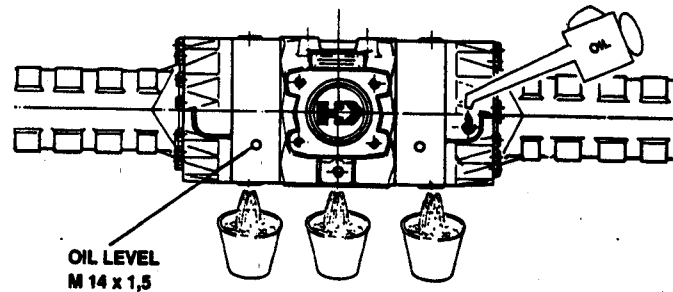

Figure 1.
36. Fill differential with recommended lubricant to bottom of oil level plug opening. See Figure 1.
2. Clean area around the differential check/fill plug (Figure 1). Remove plug from axle housing and check oil level. Oil must be level with bottom of fill plug hole. If low, add recommended oil, see Section 1050.
2. Clean around the differential fill/check plug and drain plugs (See Figure 1).